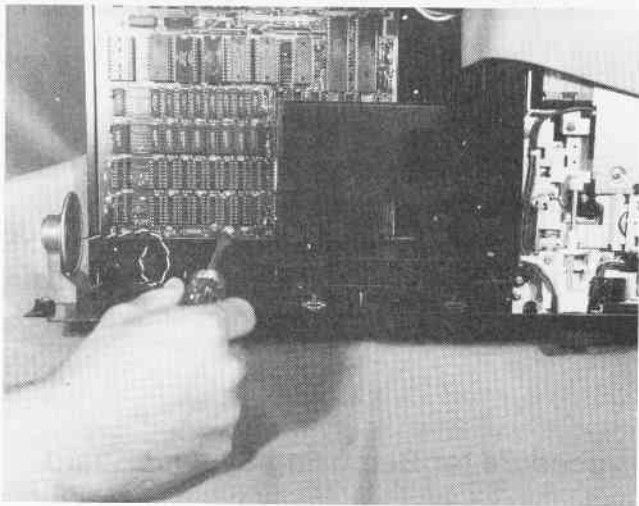

Fig. D-3. Remove the system board mounting screws.
5. Remove the system board mounting screws as shown in Fig. D-3.